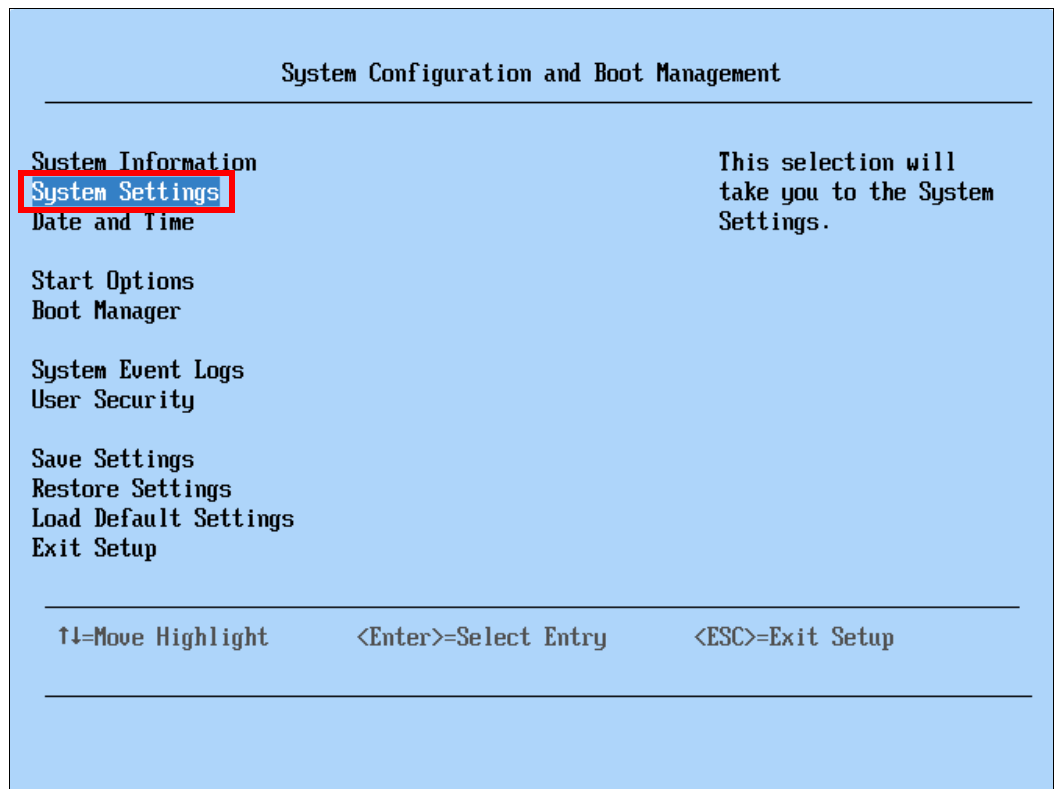

Figure 8-17 UEFI System Configuration and Boot Management menu
2. In the UEFI System Configuration and Boot Management menu, select **System Settings**, as shown in Figure 8-17.